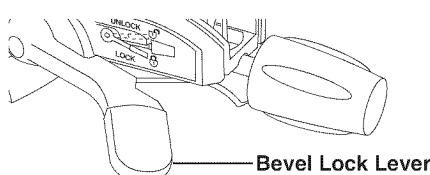

Figure 30.
2. Lift bevel lock lever to the table height with the left hand (Figure 30).